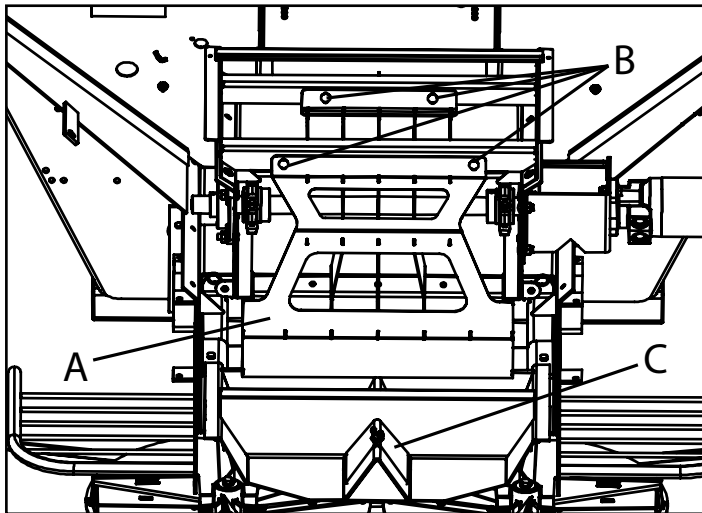

Figure 19B - MULTAPPLIER Hillside Divider (Style II)
Style II MULTAPPLIER - Loosen hardware from rear two chain shield holes on each side of MULTAPPLIER. Install MULTAPPLIER Hillside Divider (A) and fasten to Support using single bin Hillside Divider hardware removed before MULTAPPLIER installation (B). Adjust Hillside Divider so that the middle divider is centered over both conveyors and the Material Divider (C) as shown in Figure 19B. Tighten all hardware to recommended torque.